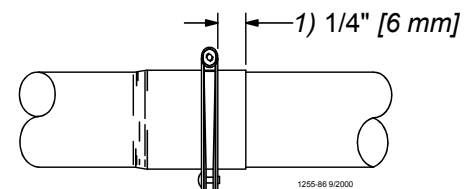

Figure 37. Clamp Installation
Figure 37 shows the proper clamp location on the tube joint. **Do not tighten the clamp at this time.**
- make sure the clamps are located, as shown in **Figure 37**.